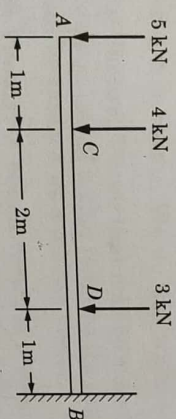

Fig. P. 25.6
- 25.6. Draw the shear force and bending moment diagrams for a cantilever beam loaded as shown in Fig. P. 25.6.